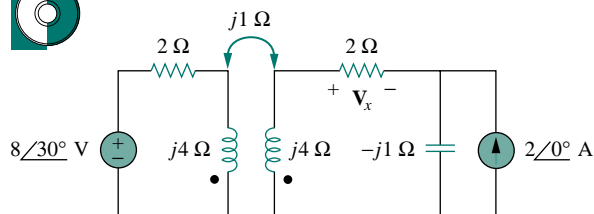

Figure 13.78 For Prob. 13.8.
- 13.8 Find V_x in the network shown in Fig. 13.78.